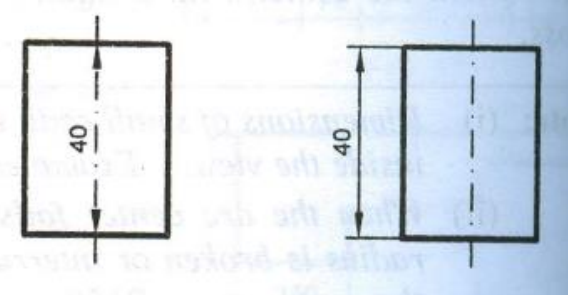

Fig 5a
1. Center line(axis) itself shall not be used as a dimension line with arrowheads as its ends. Fig 5a